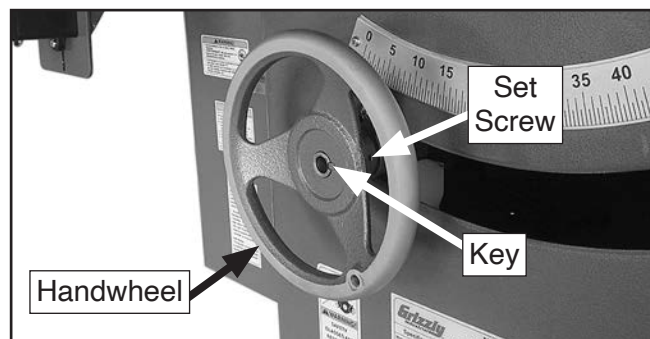

Figure 25. Blade height handwheel installed.
14. Place included shaft key into keyway on handwheel shaft, slide handwheel onto shaft, then tighten set screw on side of handwheel (see **Figure 25**).